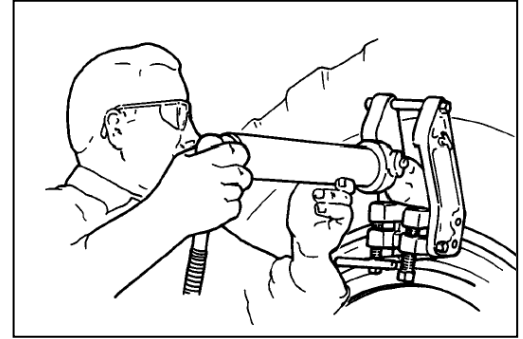

Figure 3
- With spade tip down and cylinder in retracted position, insert spade and cylinder assembly between open sides of frame. Place spade tip between tire bead and rim flange. See Figure 3.